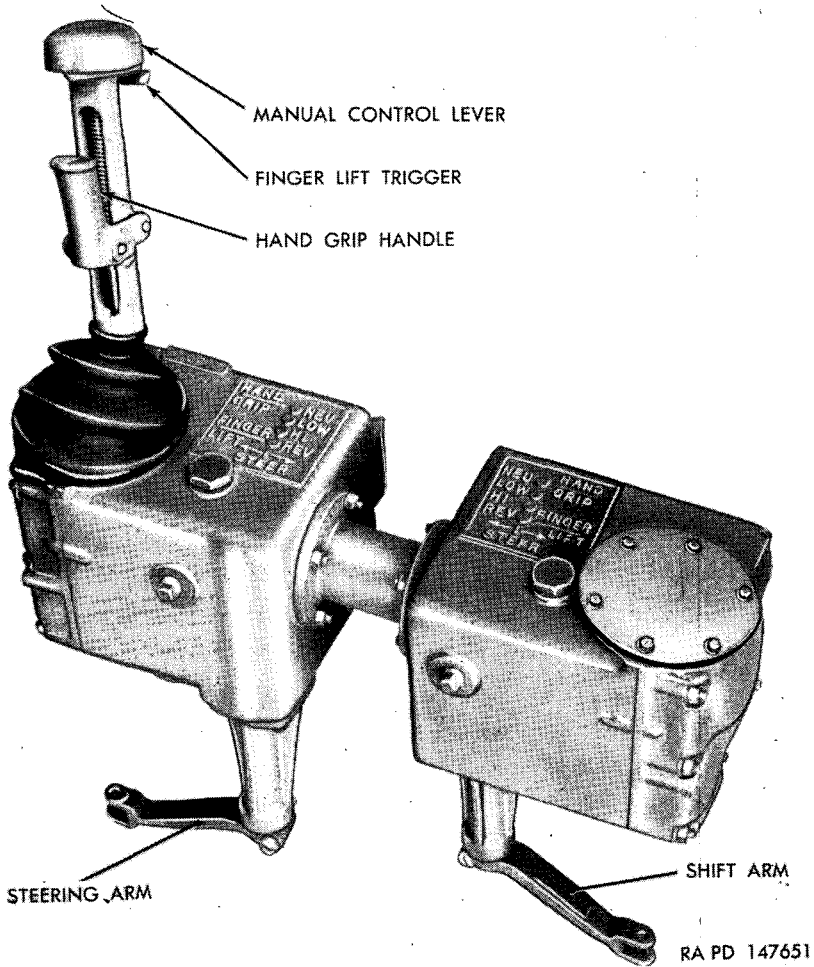

Figure 61. Steering and shifting control
- (1) Move the manual control lever to the neutral (forward) position (fig. 61).
Note: Charts showing the position of the lever for each gear range selection are cast on top of the manual control box (fig. 61).
To move the manual control lever in or out of neutral shift position, whether in steer or in neutral steer, it is necessary to actuate the hand grip handle (fig. 61). To move the manual control lever from low- to high-shift position and vice versa, neither the finger lift trigger nor the hand grip handle need be actuated. Detent cams and springs, incorporated in the manual control box and in the transmission control valve, make it possible to definitely locate the low- and high-shift positions. To shift into the reverse-shift position from either the low or high positions, or vice versa, the finger lift trigger or the hand grip handle must be actuated.
high-shift position (fig. 61). Turn the main-engine-magneto switch (fig. 18) to "BOTH" position. Set the hand throttle level (fig. 9) forward approximately 1 inch beyond free-play travel. Hold main-engine-booster switch (fig. 18) in "ON" position while being towed, until engine starts to run smoothly at about 500 rpm; then release switch lever. Signal the observer that the engine has started. The observer then will signal drivers of both vehicles when to apply brakes so that the towed vehicle will not ram the towing vehicle. The engine can be started in this manner due to a freewheeling device in the transmission which locks the torque converter input and output shafts together when the speed of the output shaft exceeds that of the input shaft.
A driver must be in control of the towed vehicle. The manual control lever (fig. 61) must be in neutral-shift position before starting to tow. Make changes of direction by a series of short turns, as this helps keep the vehicle in line. Keep the vehicles in line as far as possible, especially before entering and crossing wet or muddy terrain. Maximum speed when towing a disabled vehicles must never exceed 12 mph.